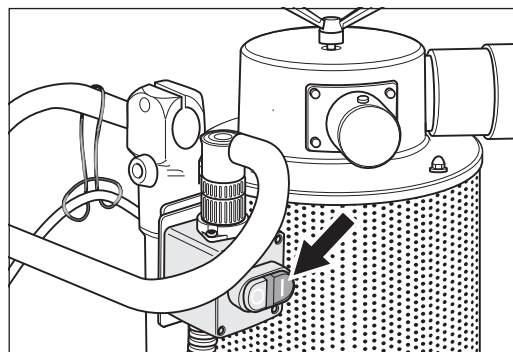

Fig. 17 To **switch** the machine **on**, push the **green** button (I) on the switch.
The machine can be switched on after these preparations have been completed. Before you do this, though, it is necessary to give the sanding plates or milling discs *a little leeway*. This is achieved by tilting the machine just slightly backwards using the black handle and switching on the machine by pushing the green button (I) on the ON/OFF switch (fig. 17).